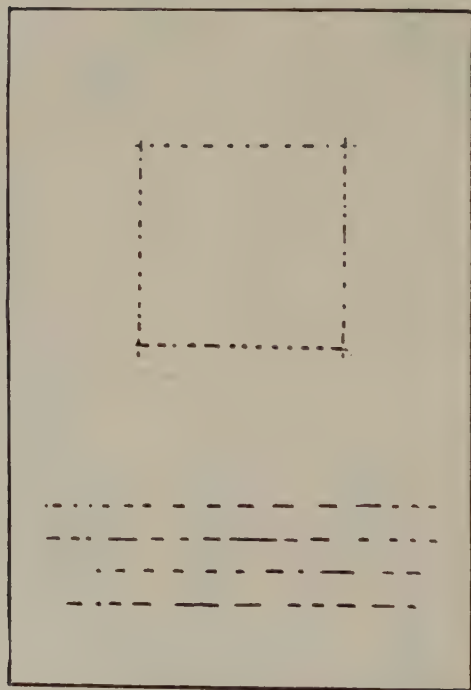

FIG. 80—LAYOUT OF FACE OF CALENDAR FOR LETTERING
18. Draw in your lettering in gold ink, first penciling the letters, afterwards using stub pen or fine pointed brush (Fig. 80). Finally glue off the back of calendar pad, affix it to board in position and press until dry. Your easel type calendar is now complete and if you have followed instructions diligently it is a neat product well worth saving or for use as a gift.